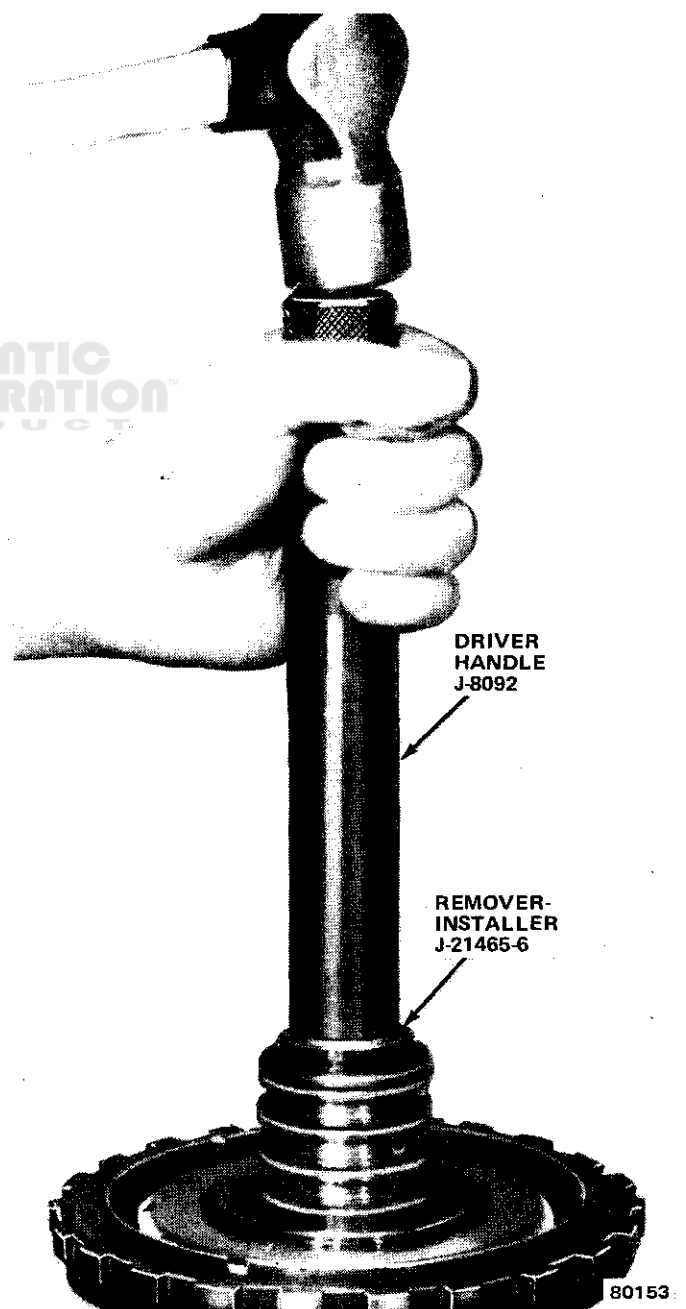

Fig. 2C-126 Center Support Bushing Installation
- (1) Position pump body on wood blocks so seal ring hub faces upward (fig. 2C-127).
- (2) Assemble Remover-Installer J-21465-17 and Driver Handle J-8092.